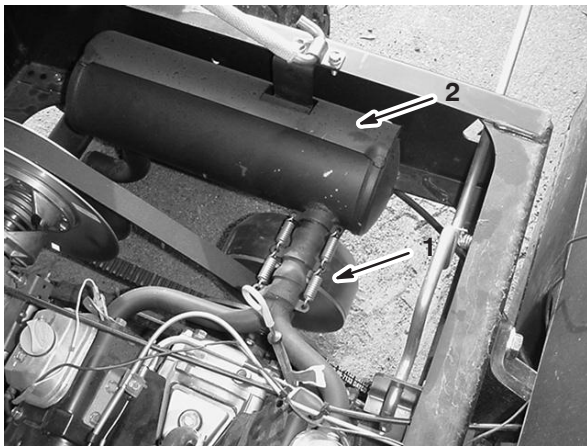

Figure 13
1. Locate the clutch drive below the exhaust system on the driver side of the engine compartment (Fig. 13).
5. Remove the existing cam arms and spring in the clutch drive (Fig. 13).